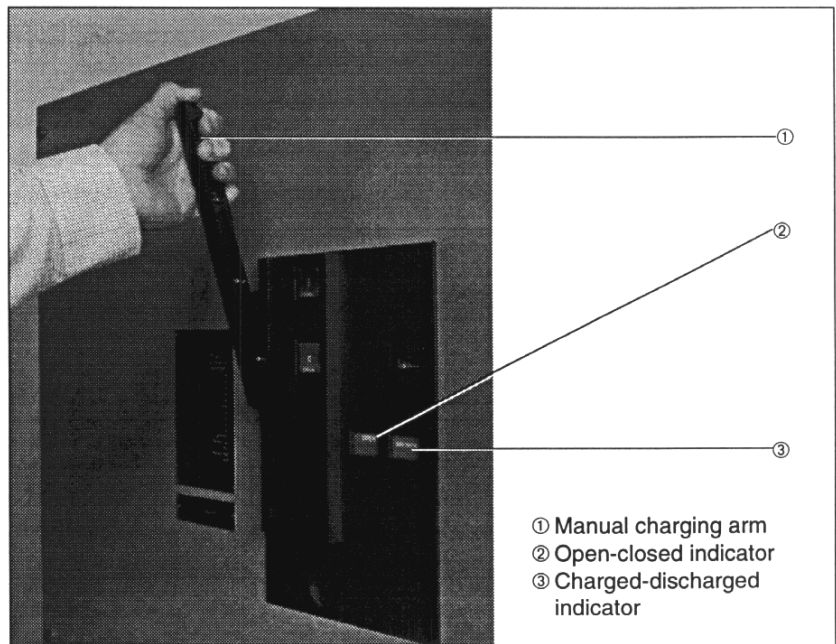

Figure 12: Charging the springs for manual open/close
1. Check the indicators (figure 12) to verify that the circuit breaker is in the open position with all springs discharged. If it is not in this position, press the **OPEN**, **CLOSE**, and **OPEN** pushbuttons.
2. Pull the manual charging arm (figure 12) all the way down and back up to the starting position. Repeat this process until the springs are fully charged. They are fully charged when the charging arm resists any further motion and **CHARGED** is visible in the indicator window.
Pull the manual charging arm (figure 12) all the way down and back up to the starting position. Repeat this process until the closing springs are fully charged. They are fully charged when the charging arm resists any further motion and CHARGED is visible in the indicator window. If the circuit breaker is connected to an energized control circuit, the spring charging motor will automatically charge the closing springs and manual charging is not necessary.